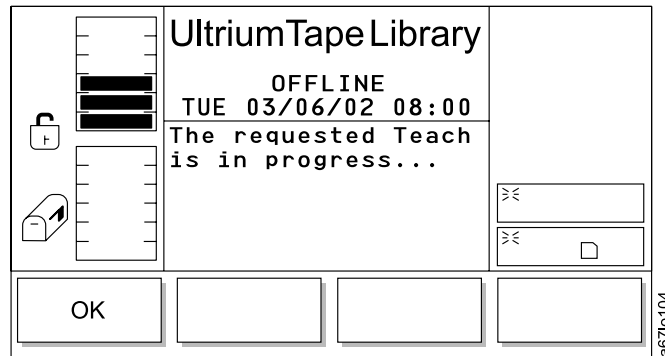
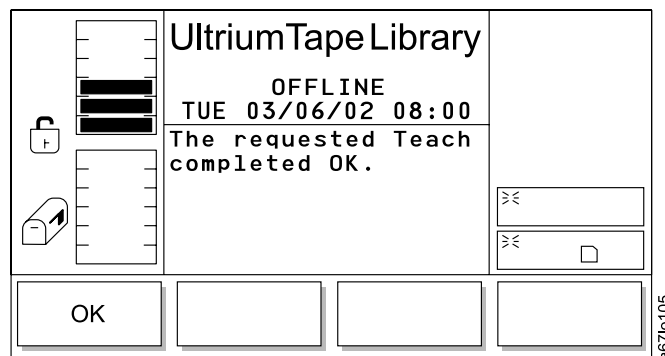

Figure 188. Teach in Progress Dialog
Figure 189. Teach Completed Dialog
- If **OK** is selected, the Teach process begins. The Teach in Progress Dialog displays, followed by the Teach Completed Dialog (see Figure 188 and Figure 189).